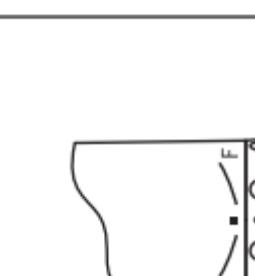

Fig. 3
- 1) Forward Rotation : Turn the FWD/REV Change Ring to "F".(Fig. 3)